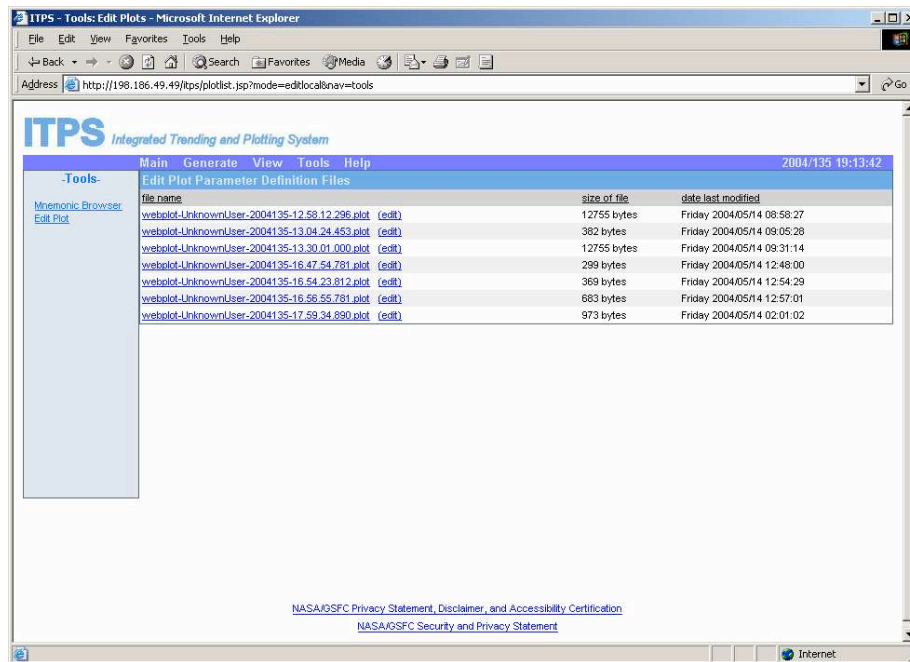

Figure 134: Edit Web Plot List Screen
- Click on the “Edit Plot” link on the left menu panel (see Figure 134).